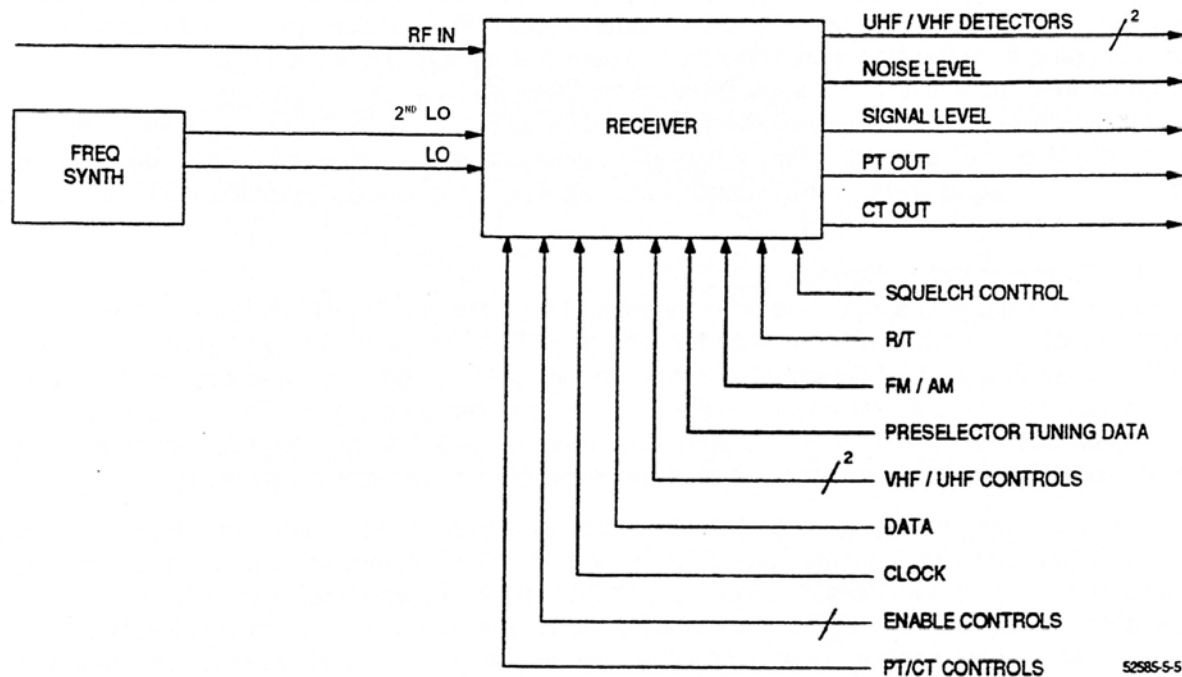

Figure 7 - Receiver Output Signal Diagram
Figure 7 shows input and output signals of the receiver. The RF IN signal is the received signal routed from the receiver. The RF IN signal may be either VHF (115 to 149.9950 MHz [AM] or 173.9950 MHz [FM]) or UHF (225 to 399.9950 MHz) signal in either FM or AM mode of modulation. (It may also be an extended UHF [400-420 MHz] signal in FM mode for the 400 MHz option.) The LO signal is provided by the synthesizer and is set at 45.0 MHz above the desired received signal. (Low-side mixing is used for 400-420 MHz band, therefore, data output in this
As shown in Figure 7, the receiver has six output signals. The VHF and UHF Detector signals provide calibration data to the processor. The Noise Level and Signal Level signals control squelch operation. The PT and CT output signals are the demodulated baseband signals with the Plain Text (PT) signal being an audio signal with a 300 Hz to 3 kHz bandwidth while the Cipher Text (CT) signal is a data signal with a typical data rate of 16 kbps. The bandwidth of the Cipher Text data signal is from 30 Hz to 10.24 kHz.